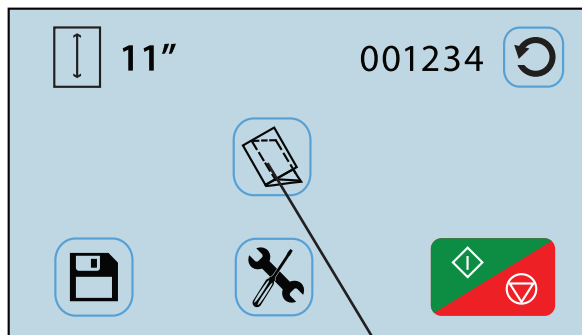
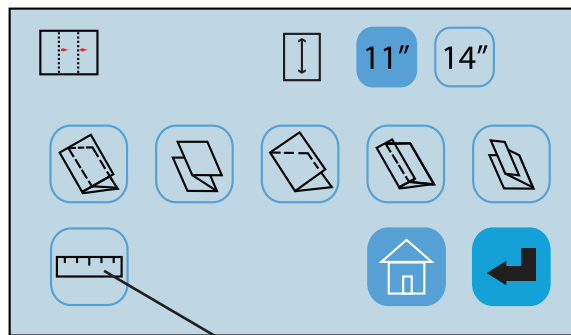

Fig. 9
Fig. 10
Three (3) custom fold settings can be stored into memory for recurring jobs with fold settings that vary from the standard fold settings. To create a custom fold, from the Home Screen press the fold selection icon  to access the fold selection screen (Fig. 9). From the fold selection screen press the Custom Fold icon  (Fig. 10). See page 10 to help determine the new fold measurements.